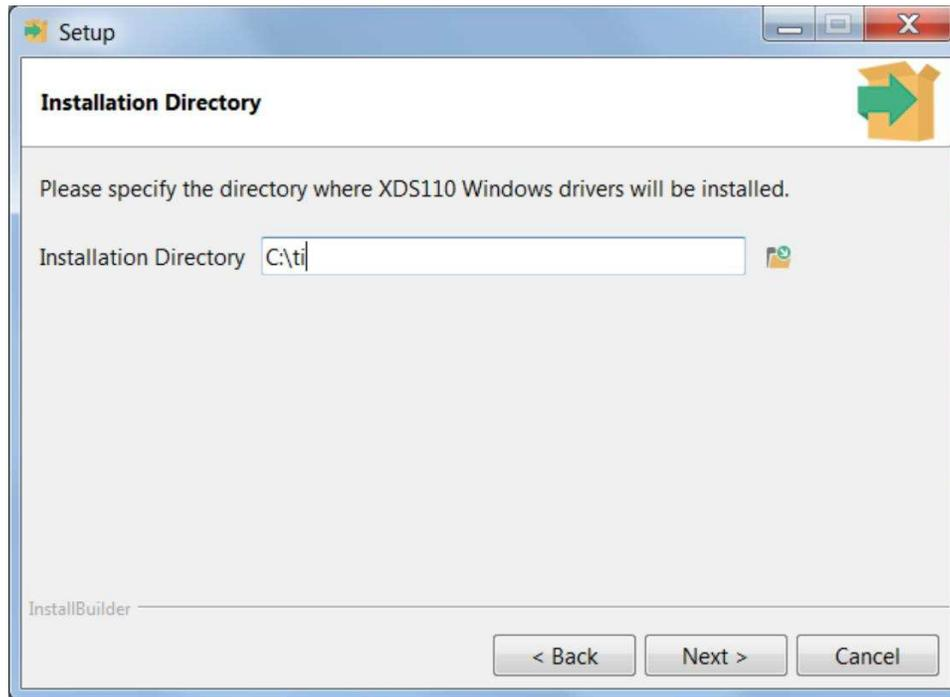

Figure 1-9. Select Install Path
- Specify the installation path in the Installation Directory field, as shown in Figure 1-9 (default is C:\ti), and proceed with the installation.